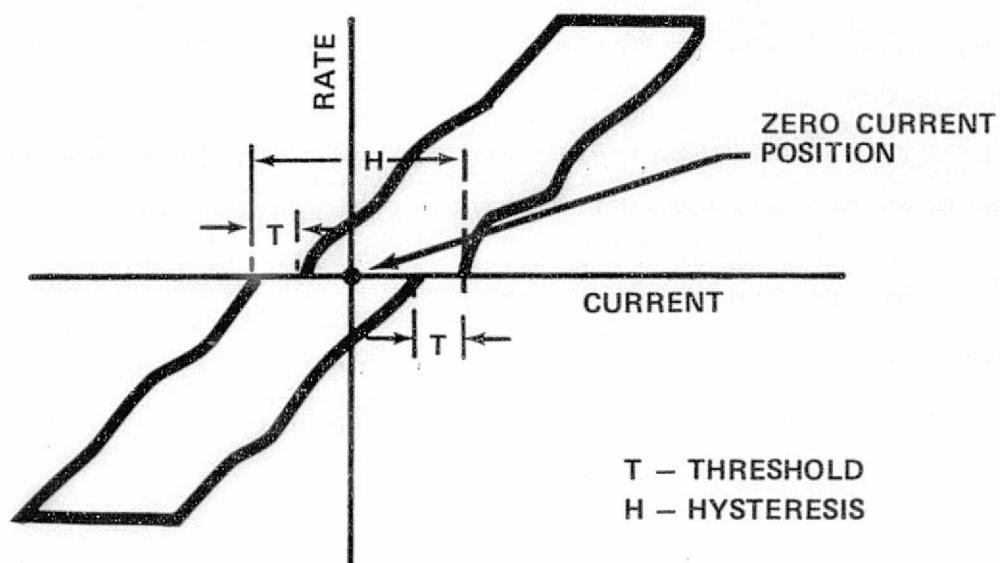

Figure 3-4. - Definitions of actuator threshold and hysteresis (for reference only).
- (a) Determination of unit hysteresis - This is defined as the maximum difference between the current required to start the unit piston in one direction and that required to start the unit piston in the other direction. (Refer to figure 3-4.)